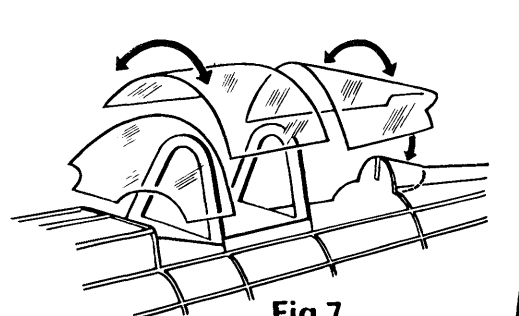

Fig. 7
STEP 7. Glue instrument panel in place on former C. Cut out canopy pieces from acetate using FIG. B as guides. Paint areas not marked as clear to indicate canopy metal. Glue in place as shown in Fig. 7. Use glue sparingly, neatness counts here.